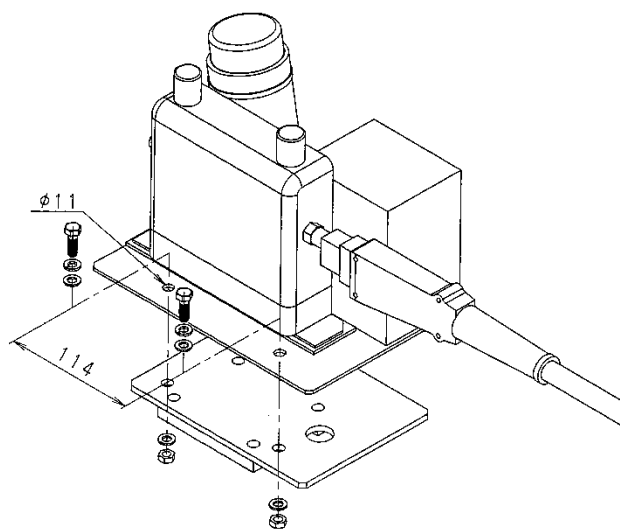

Fig. 1.2 Mounting of wire feeding unit
2. Referring to Fig. 1.2, mount the wire feeding unit to the fixing bracket. For mounting, use the hexagon head bolts and washers and nuts provided with the wire feeding unit.